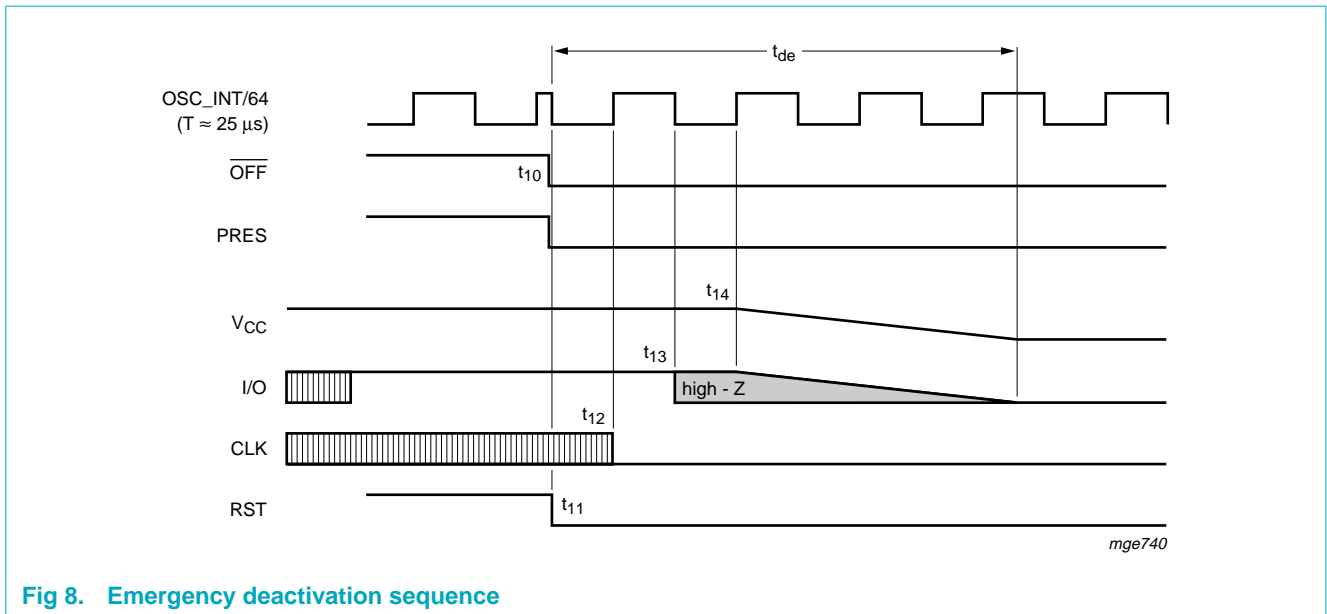

Fig 8. Emergency deactivation sequence
2. $\overline{\text{CMDVCC}}$ LOW: (within a card session) then, $\overline{\text{OFF}}$ falls LOW if the card is extracted, or if a short-circuit has occurred on V_{CC} , or if the temperature on the IC has become too high. As soon as the fault is detected, an emergency deactivation is automatically performed (see Figure 8).